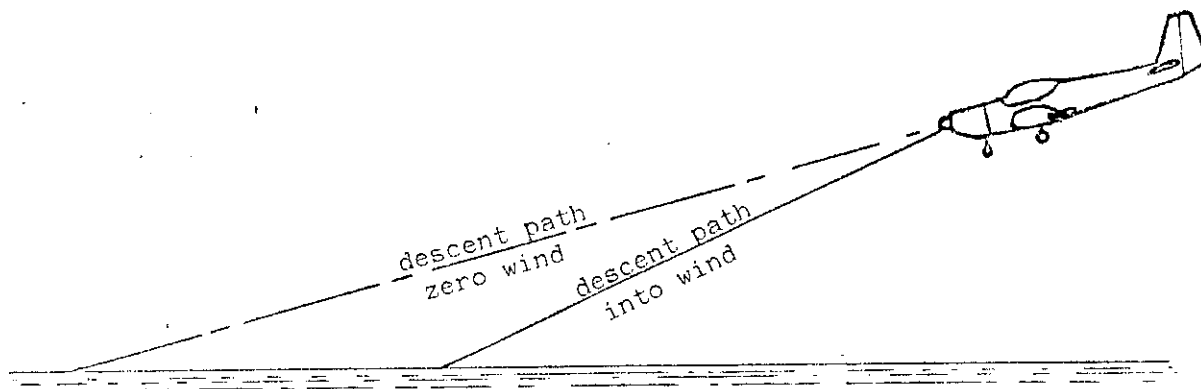

Fig 13.2 Steeper descent path when landing into wind
- a As illustrated in (Fig 13.2), an approach into wind gives a steeper descent path and, hence, better obstacle clearance.